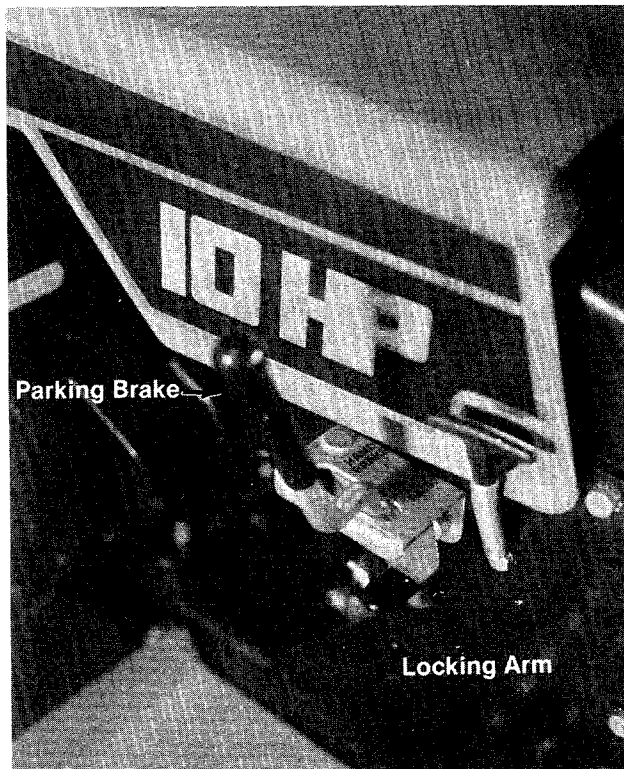

FIGURE 14
c. Parking Brake. To set the parking brake, pull the parking brake lever back and hold it in the locked position while moving the locking arm to the left. See figure 14.